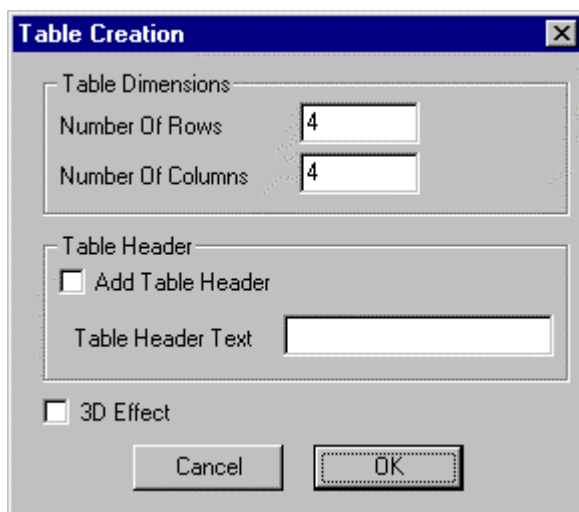

Figure 8.4 – Table Creation
4. The Table Creation windows open (Fig 8.4)